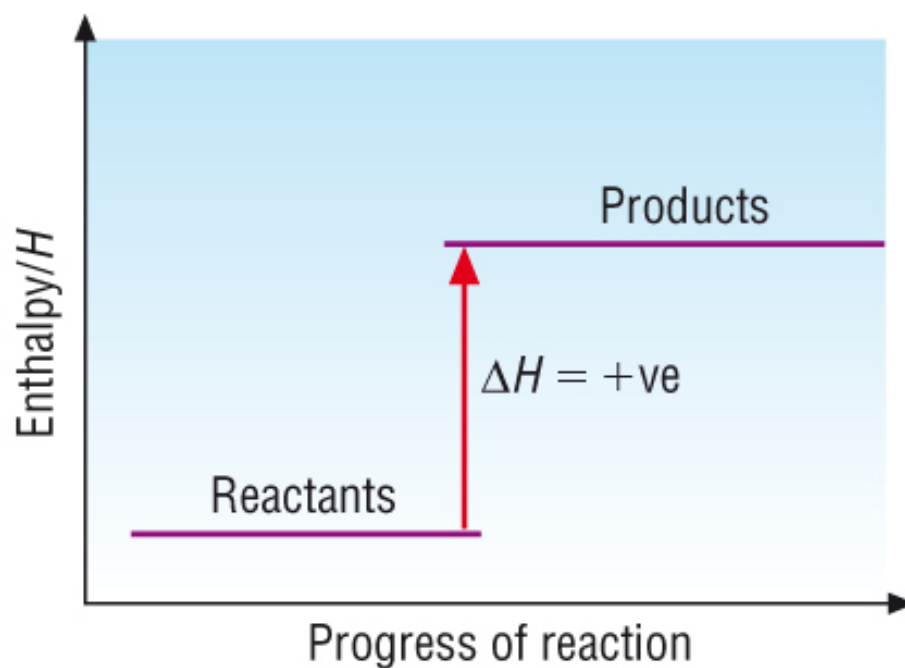

Figure 2.9: Endothermic Enthalpy Diagram
- Figure 2.9 - Endothermic Enthalpy Diagram - <http://awkwardrevision.weebly.com/enthalpy.html> - Accessed 16:21, 11/02/2015.